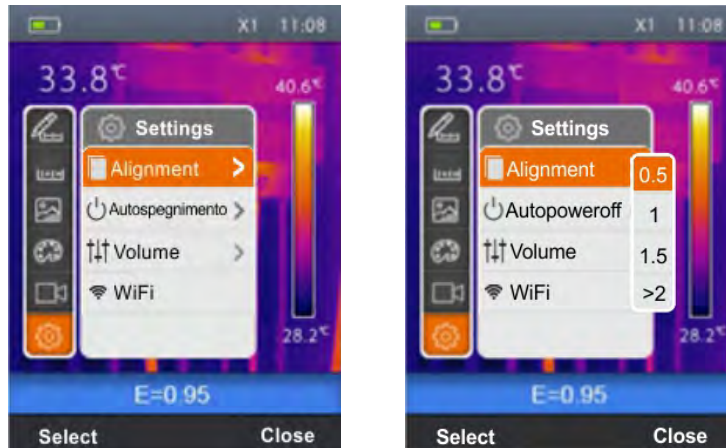

Fig. 13: Setting the alignment distance
1. Select the item “Alignment” with the keys \oplus or \ominus and press the key . The screen of Fig. 13 – Right side is shown on the display.